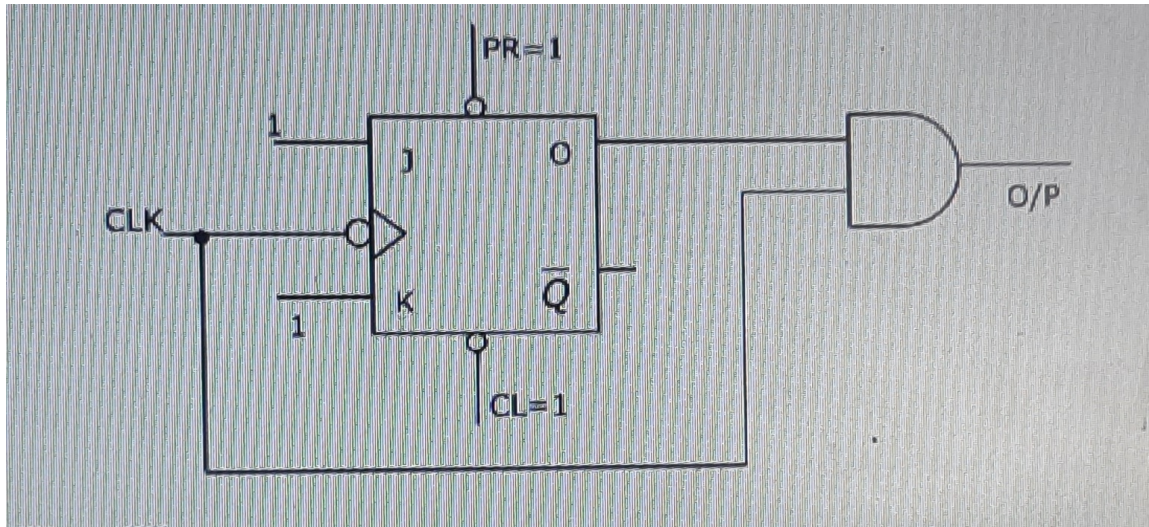

Figure 6.3:
1. The digital circuit shown in Fig. 6.3 generates a modified clockpulse at the output.